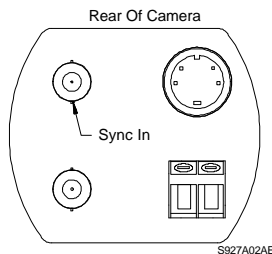

Figure 20: Sync Connection
2. If the camera includes an unused synchronization circuit, install a 75 ohm BNC termination resistor on camera "SYNC IN" terminal. See **Figure 20**.